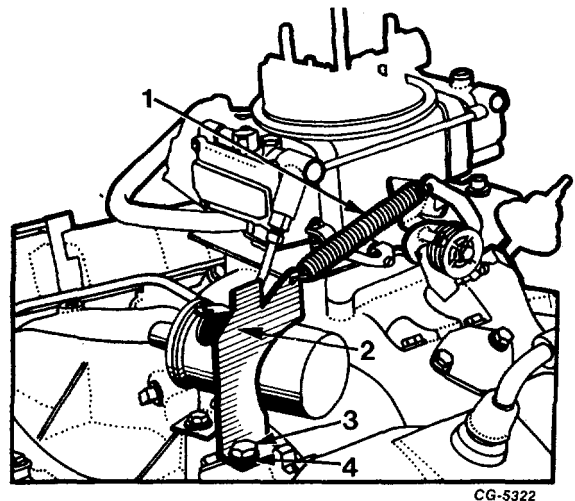

Fig. 29 Removing Return Spring and Bracket
28. Remove carburetor return spring and bracket from intake manifold, Figure 29.